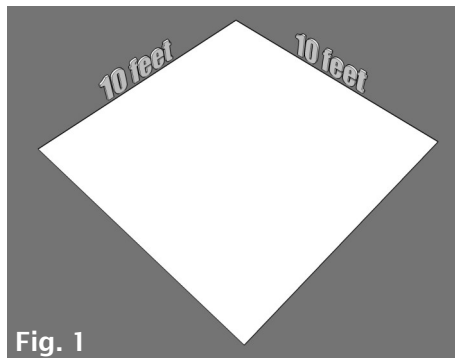

Fig. 1
1. Determine where you would like to install your UDECX Patio Deck and measure off a 10' X 10' or selected area. (Fig. 1)